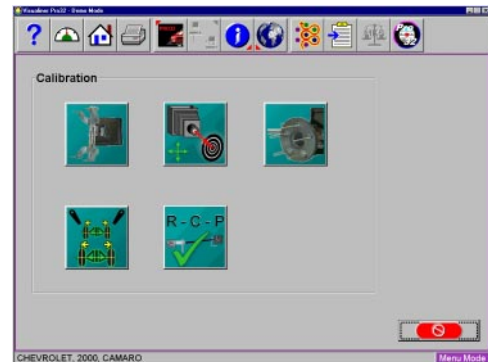

Figure 3-117
1. From the calibration icon single click on the “Camera Pod Rotation” icon. (Figure 3-117)